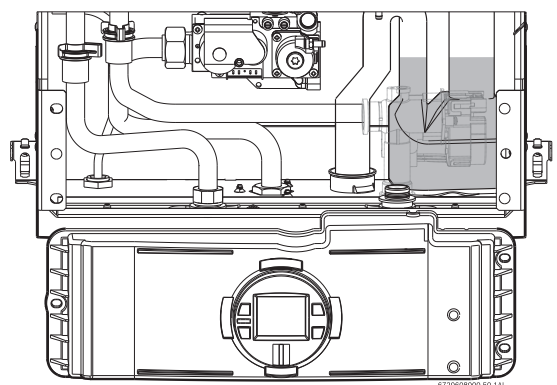

Fig. 39 Water level in condensate trap
- Put the control unit in service position by engaging its tabs with the holes in the bottom horizontal sheet metal, see Fig. 39.